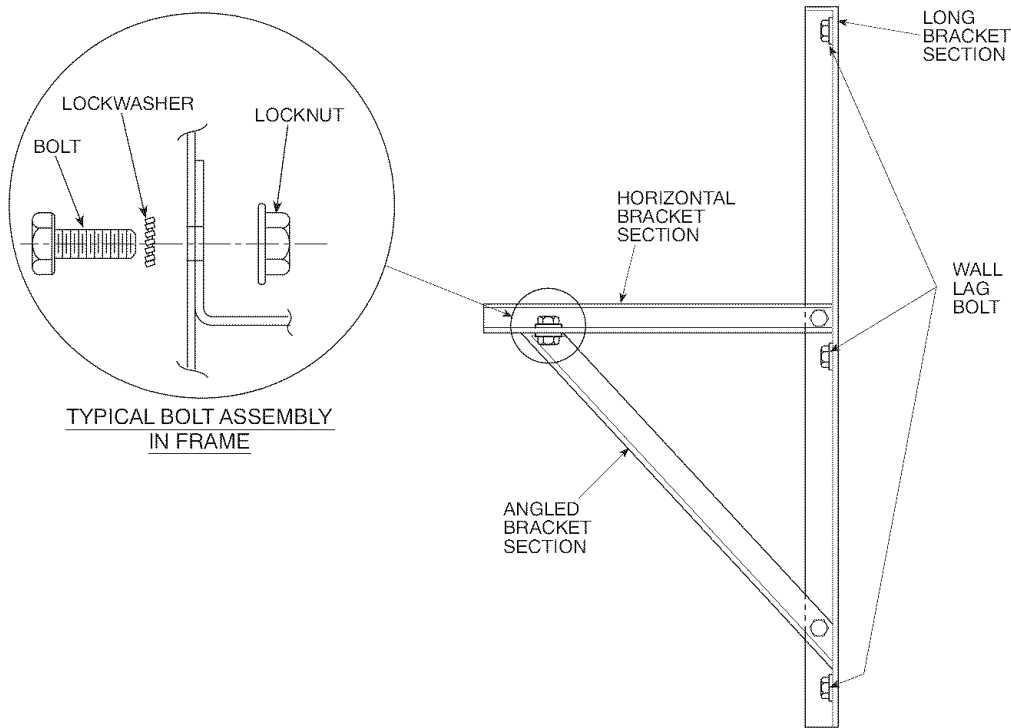

Fig. 2 – Assembled Mounting Kit (One Section)
5. Assemble the bracket sections as shown in Fig. 2, using bracket assembly bolts, lockwashers and bracket assembly locknuts. Do not tighten the bracket assembly bolts until the assembled kit is mounted on the wall. Mount the bracket assembly to the wall as shown in Fig. 2, using the 6 wall lag bolts and washers provided. Once mounted, tighten the bracket assembly bolts securely at all six mounting locations.
7. Mount the unit on the wall brackets using the 1-in. mounting feet bolts and mounting feet locknuts provided. Tighten with the mounting feet locknuts. Use 2 bolts on the coil end of the unit, and 2 bolts beneath the compressor section. See Fig. 2.